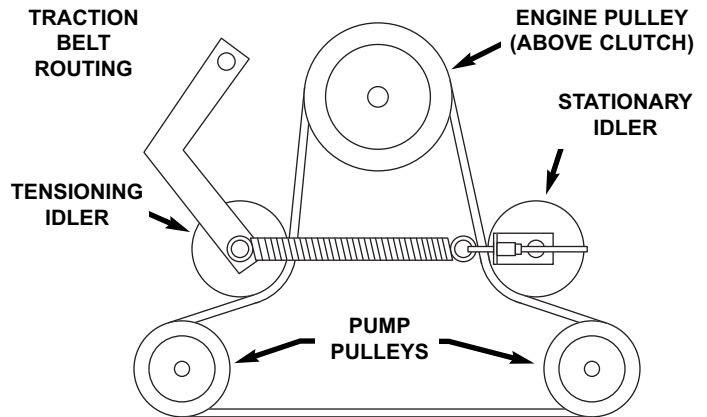

FIGURE 5.10
6. Install new belts, routing around engine pulley and hydro pump pulleys. See Figure 5.10.